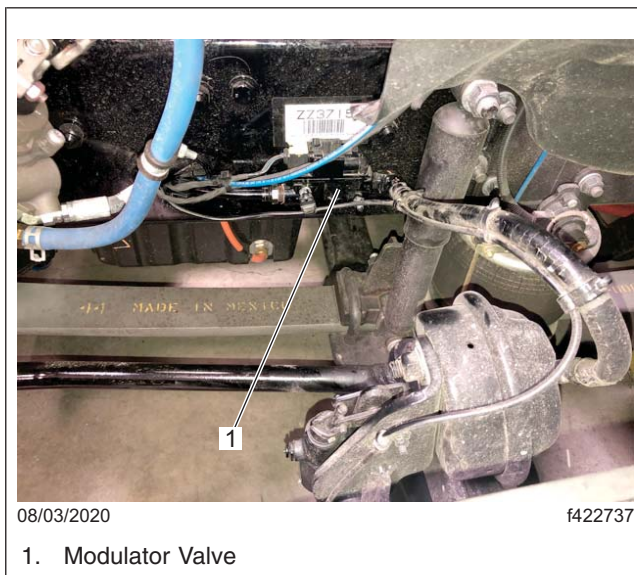

Fig. 2, Location of the Modulator Valve
1. Locate the modulator valve on the front-left frame rail, behind the wheel. See Fig. 2.